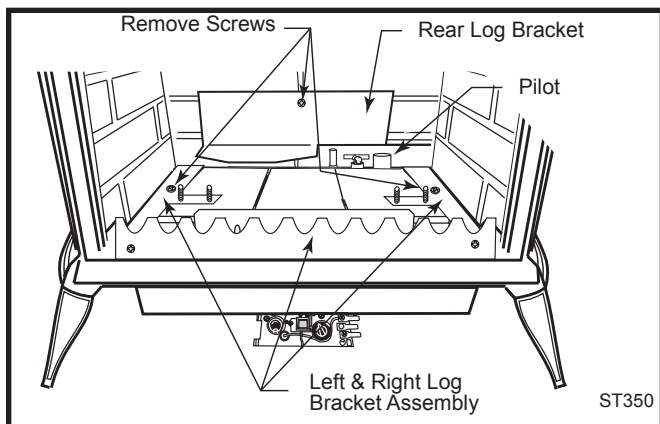

Fig. 38 Remove rear log bracket and left and right log bracket assembly.
5. Remove the rear log bracket by unfastening the screw. (Fig. 38)
6. Remove the right and left log bracket assembly by unfastening the two screws that hold the burner in place. (Fig. 38)